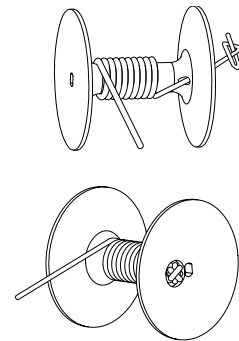

Figure 7. Rope Installation
To install rope on the drum, refer to Figure 7 and follow the outlined procedures.
4. Keep tension on the rope and feed the rope on the drum by running the anchor winch with the switch in the up position. Correct rotation is essential for proper operation. Make sure the rope rotation corresponds to Figure 7. The rope must feed from the top of the drum.